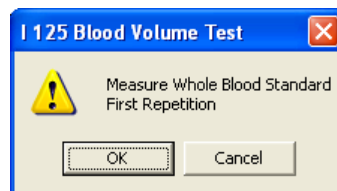

Figure 10-41
5. The screen then appears as shown in Figure 10-41, prompting measurement of the whole blood standard.